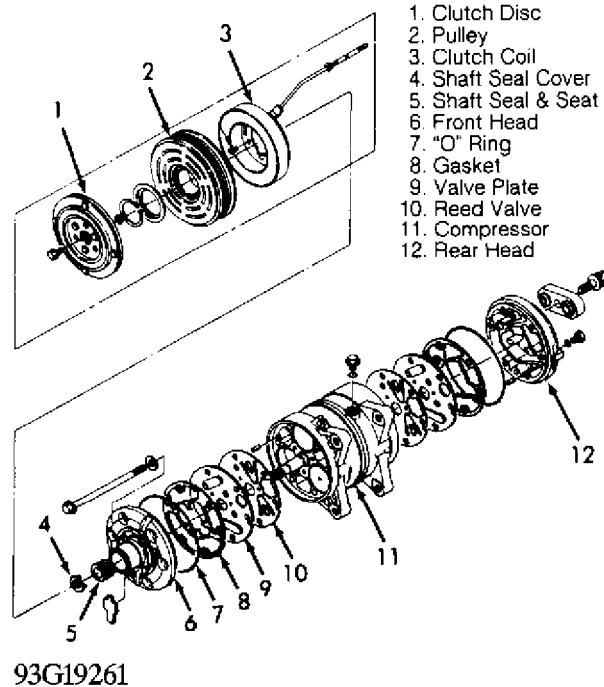

Fig. 5: Exploded View Of Compressor (Diesel Kiki 6-Cylinder)
1) Using Clutch Holder (J-33939) to prevent clutch disc from rotating, remove shaft bolt. Using Clutch Disc Puller (J-33944-A) and Forcing Bolt (J-33944-4), remove clutch disc. Remove shim(s) from compressor drive shaft or clutch disc. See Fig. 5.
4) Install front head and tighten compressor through bolts, in a crisscross pattern, to 16 ft. lbs. (22 N.m). Install shaft seal cover and felt. See Fig. 5. Rotate compressor drive shaft 2-3 times to ensure compressor operates smoothly.